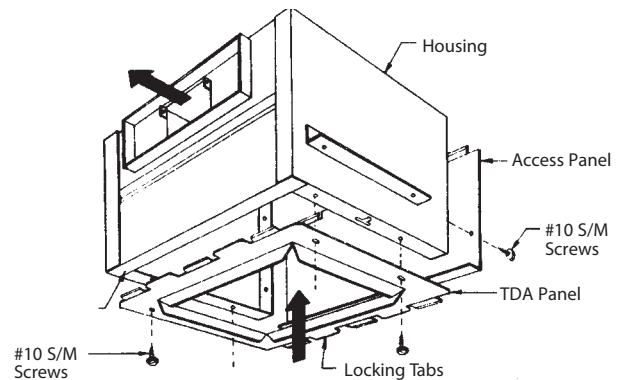

FIGURE 27: "TDA" (RIGHT ANGLE)
2. Reassemble both the TDA and access panels after exchanging locations. First, slide the 3 locking tabs of the TDA panel into the housing flange. Second, slide the 3 tabs of the access panel into the housing. Third, engage the access panel return flange into the 3 locking tabs on the TDA panel. Finally, reinstall the six #10 sheet metal screws. See figure 27.